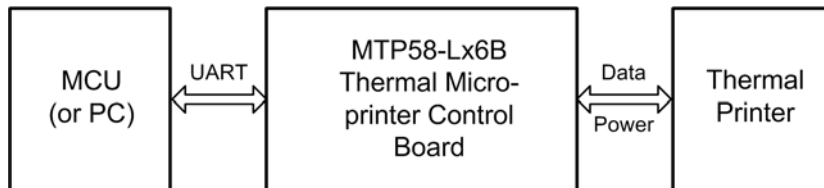

Figure 1-1: How to use MTP58-Lx6B
Figure 1-1 demonstrates how to use the MTP58-Lx6B series Micro-thermal printer control board:
- MTP58-Lx6B drives the Micro-thermal Printer head for printing by controlling the control line and the power line, as Figure 1-1 shows.